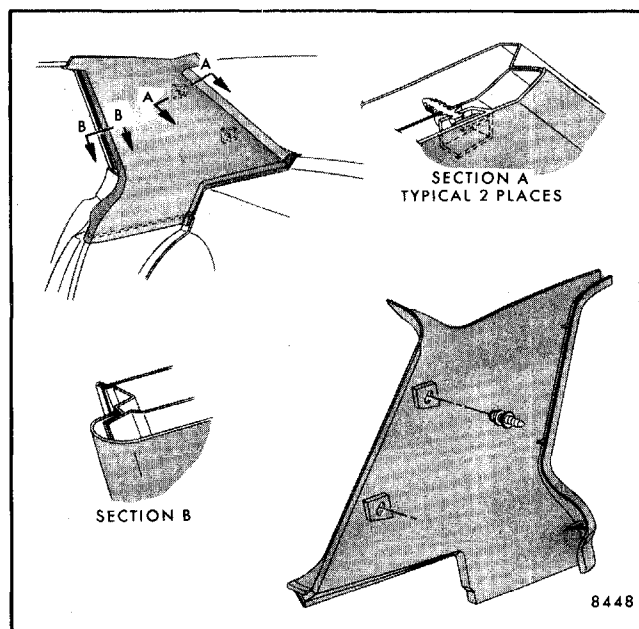

Fig. 6-20-Quarter Upper Trim Attachment - X-69 Styles
9. To remove quarter upper trim panels on X-69 style, grasp rear of trim panel directly below plastic fasteners (Fig. 6-20) and pull inboard until clip disengages from quarter inner panel.